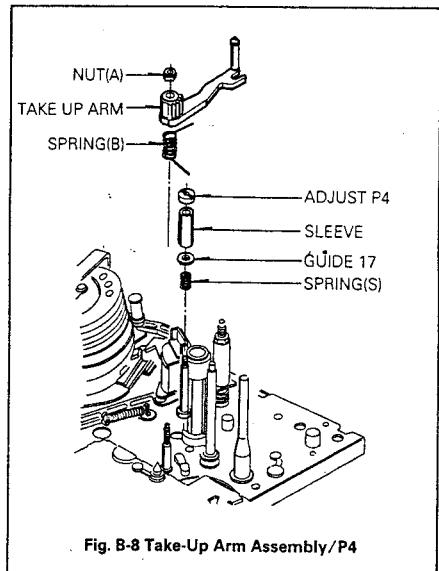

Fig. B-8 Take-Up Arm Assembly/P4
① When disassembling the Take-Up Lever, be careful not to break the Hook(A).
- ② When reassemble the Take-Up Lever, align the appendant Gear of Lever Take-Up with the appendant Gear of Take-up Arm
- ③ Reassemble the Take-Up Lever completely by hooking (A).
8. Take Up Arm Assembly(Fig. B-8)
9. P4 Assembly(Fig. B-8)